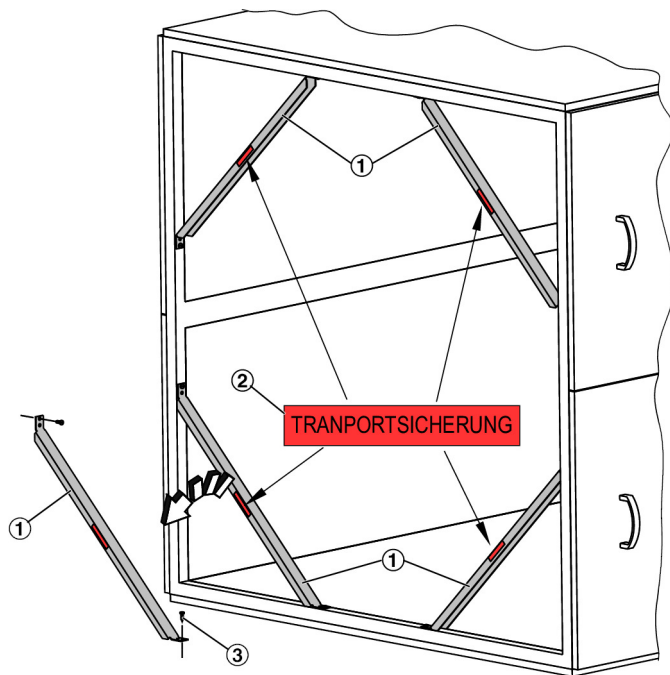

Fig. 8: Cross bars
1. ▶ Remove the cross bars ( Fig. 8 /1) that are marked with a red sticker ( Fig. 8 /2).
2. ▶ Then close the drilled holes in the frame with screws ( Fig. 8 /3).